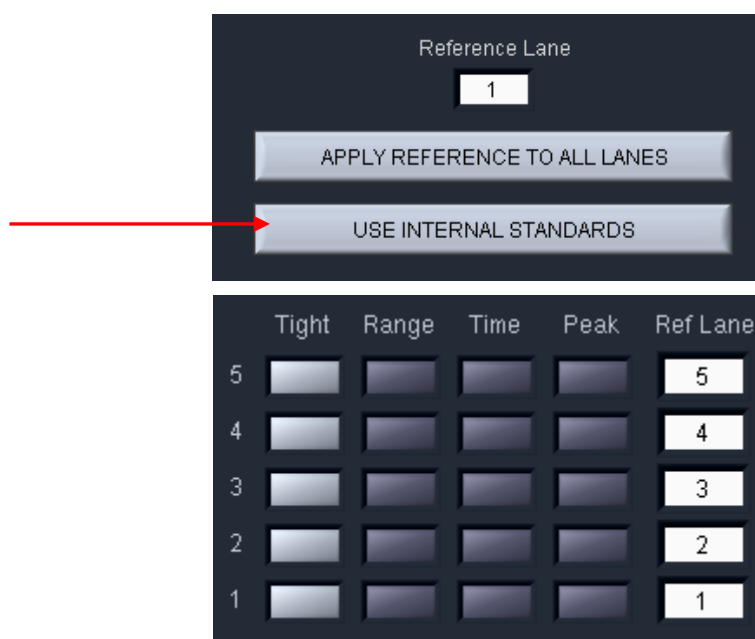

Figure 11.2. The correct configuration for a protocol using internal standards.
3. **Figure 11.2** shows the correct assignment of marker lanes for internal standard runs.